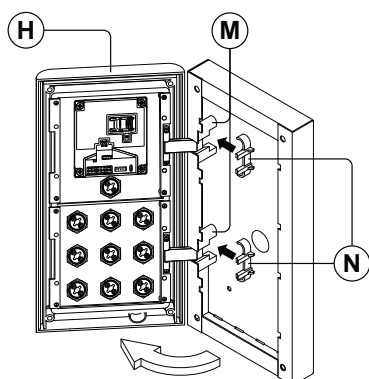

Fig. 55
7. Next open the module support frame **(H)** and clip the hinge locks **(N)** to the hinge mounts **(M)**, following the guide arrows, as shown in **Fig.55**;